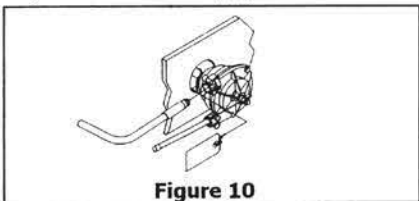

Figure 10
STEP 2. Remove protective sleeve from cable end, making sure that dirt does not get onto the lubricated cable end. Feed cable end into UPPER helm entry spigot until it contacts the internal gear, then turn steering wheel counterclockwise to draw cable fully into the helm (see Figure 10). Continue turning wheel until end fitting of cable is entered into the entry spigot, and wheel cannot be turned further. During this you may hear a click as the locking mechanism engages. Turn steering wheel fully in the other direction until it cannot be turned any further, and check that the cable end fitting is retained inside the entry spigot.